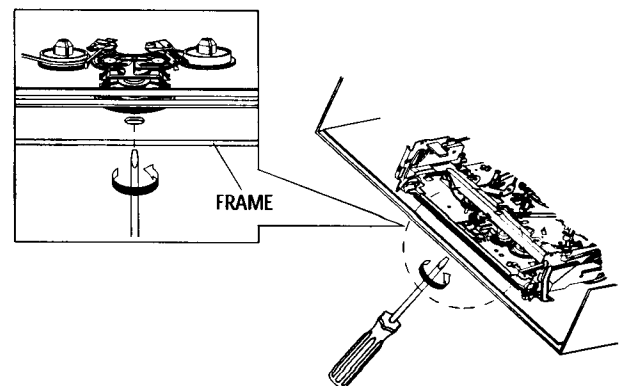

Fig. 1-34
- 2) When Slider S,T are approached in the position of unloading, rotate holder Clutch counterclockwise after inserting screw driver in the hole of frame's bottom in order to wind the unwinded tape. (Refer to Fig.1-34)